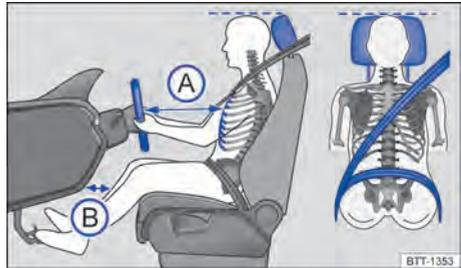

Fig. 28 Illustration: correct distance between the driver and the steering wheel, correct seat belt routing and correct head restraint adjustment.
- Adjust the head restraint so that its upper edge is at the same height as the top of the head, but not lower than eye level. Position the back of your head as close to the head restraint as possible → Fig. 28.
- Adjust the steering wheel so that the distance between the steering wheel and your breastbone is at least 25 cm → Fig. 28 A and the circumference of the steering wheel can be held at the sides with the arms slightly bent.
- Adjust the driver seat by moving it forwards or backwards so that you are able to press the pedals to the floor with your knees still slightly angled and the distance from the dash panel to your knees is at least 10 cm → Fig. 28 B.